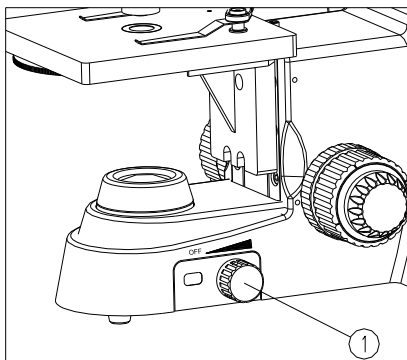

Fig. 2
5. For safety, make sure the power knob① is rotated counterclockwise to the minimum before replacing the bulb, and wait until the bulb and base cool down completely (see Fig. 2).